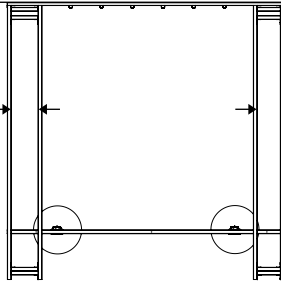

Fig. 57
2. Insert left and right Joist assemblies into S-Ledger. Be sure ends of Joist assemblies with components A or B are facing the S-Ledger. Joist of each assembly with the F-50 Bracket of component A or B facing away from the S-Ledger mounts onto first Ledger Bracket. As shown in Fig. 57. **Be sure Joist assemblies are mounted in displayed orientation.**